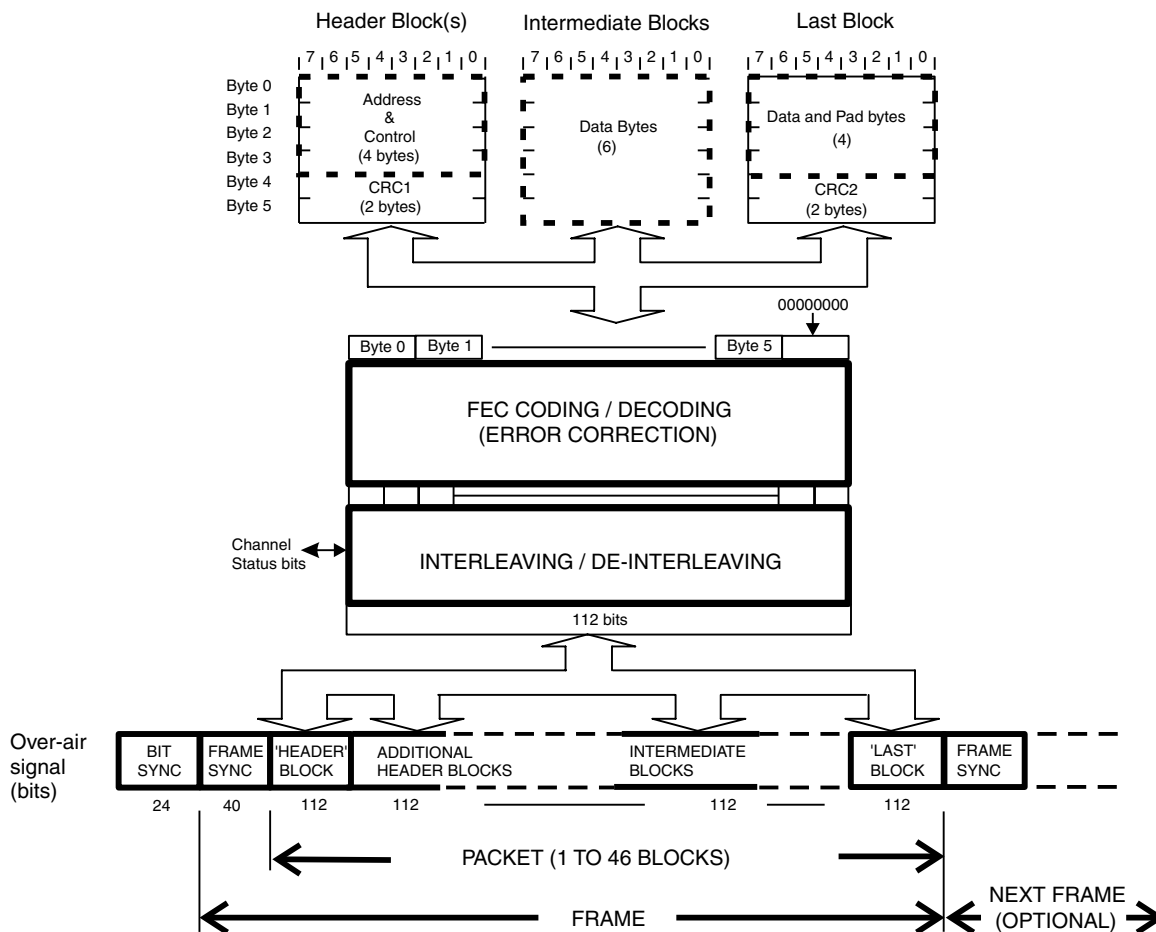
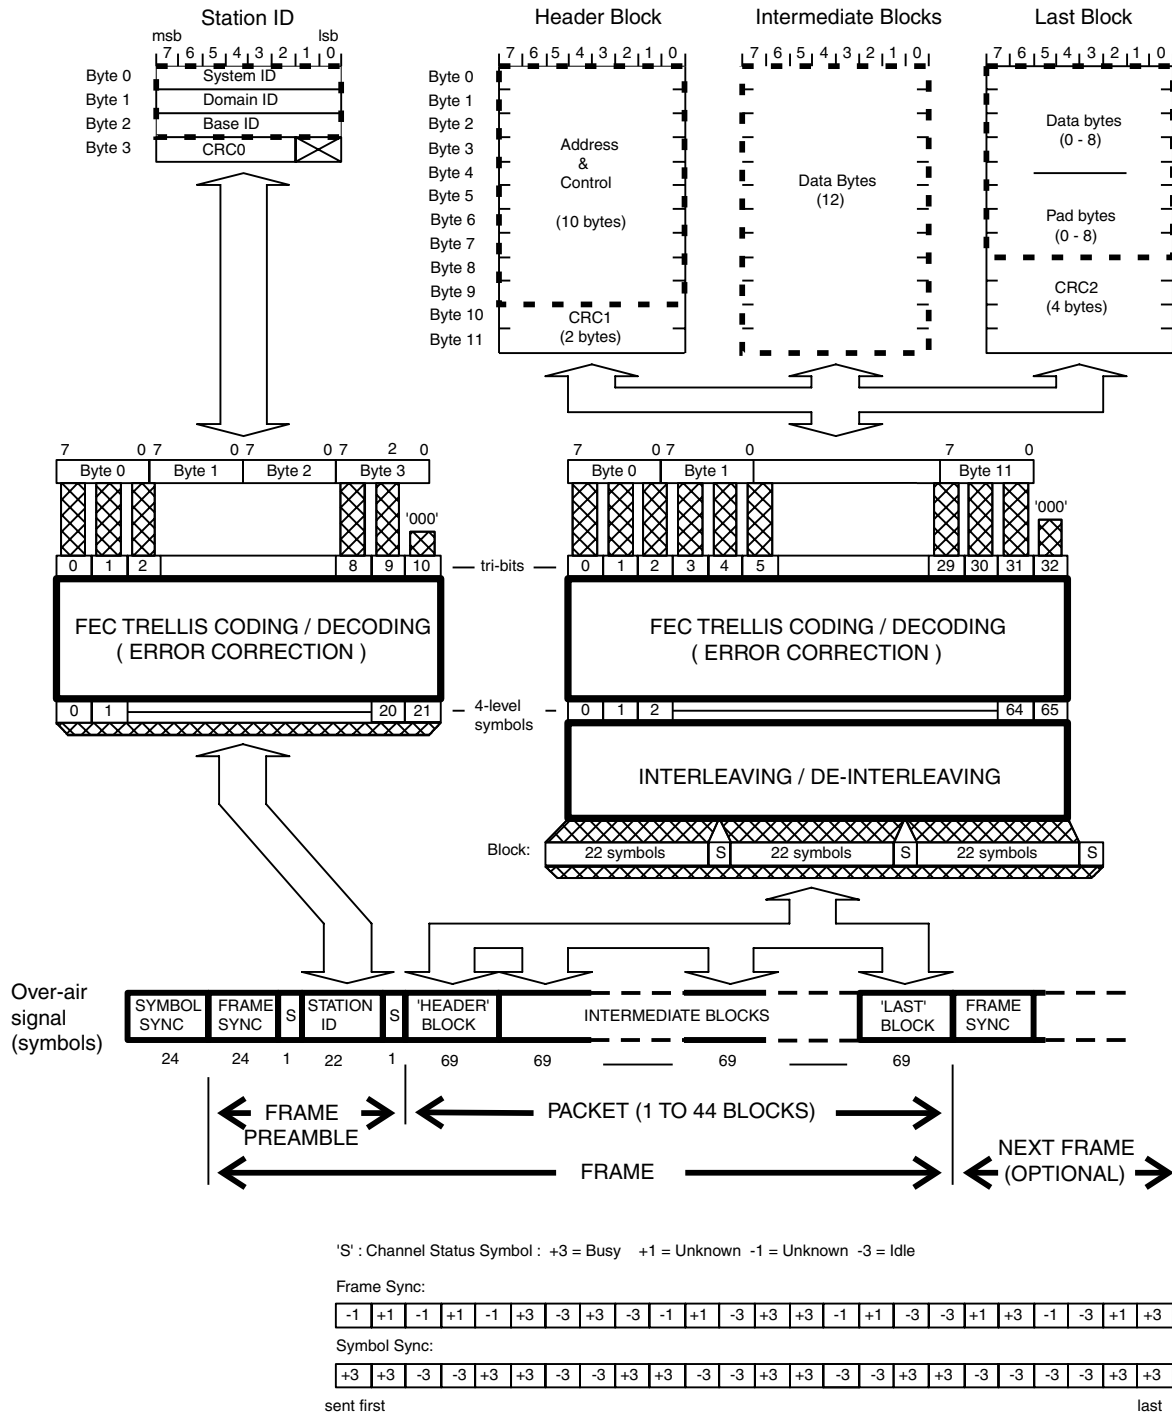

Figure 5: MDC Over Air Signal Format
Figure 6: RD-LAP Over Air Signal Format
In general, data is transmitted over-air in the form of messages, or 'Frames', consisting of a 'Frame Preamble' followed by one or more formatted data blocks. The Frame Preamble includes a Frame Synchronization pattern designed to allow the receiving modem to identify the start of a frame. The following data blocks are constructed from the 'raw' data using a combination of CRC (cyclic redundancy checksum) generation, Forward Error Correction coding and Interleaving. Details of the message formats handled by the modem are given in Section 4.4 and Figure 5 and Figure 6.
In both RD-LAP and MDC modes the CMX969 performs all of the block formatting and de-formatting, the binary data transferred between the modem and its  $\mu$ C being that enclosed by the thick dashed rectangles near the top of Figure 5 and Figure 6.
The CMX969 Frame Structure in MDC mode is illustrated in Figure 5, and consists of a Frame Synchronization pattern followed by one or more 'Header' blocks, one or more 'Intermediate' blocks and a 'Last' block. Channel Status bits are included at regular intervals. The first Frame of any transmission is preceded by a Bit Synchronization pattern.
The CMX969 Frame Structure in RD-LAP mode is illustrated in Figure 6, and consists of a Frame Preamble (comprising a 24-symbol Frame Synchronization pattern and Station ID block) followed by one or more 'Header' blocks, one or more 'Intermediate' blocks and a 'Last' block. Channel Status (S) symbols are included at regular intervals. The first Frame of any transmission is preceded by a Symbol Synchronization pattern.